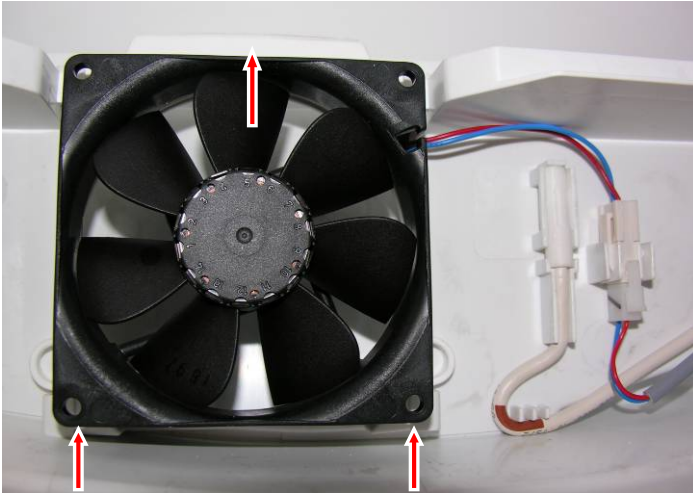

Fig. 5.2.4 / 1
- Disconnect the fan and press it up and out together with the rubber mounting (**Fig. 5.2.4/ 1**).